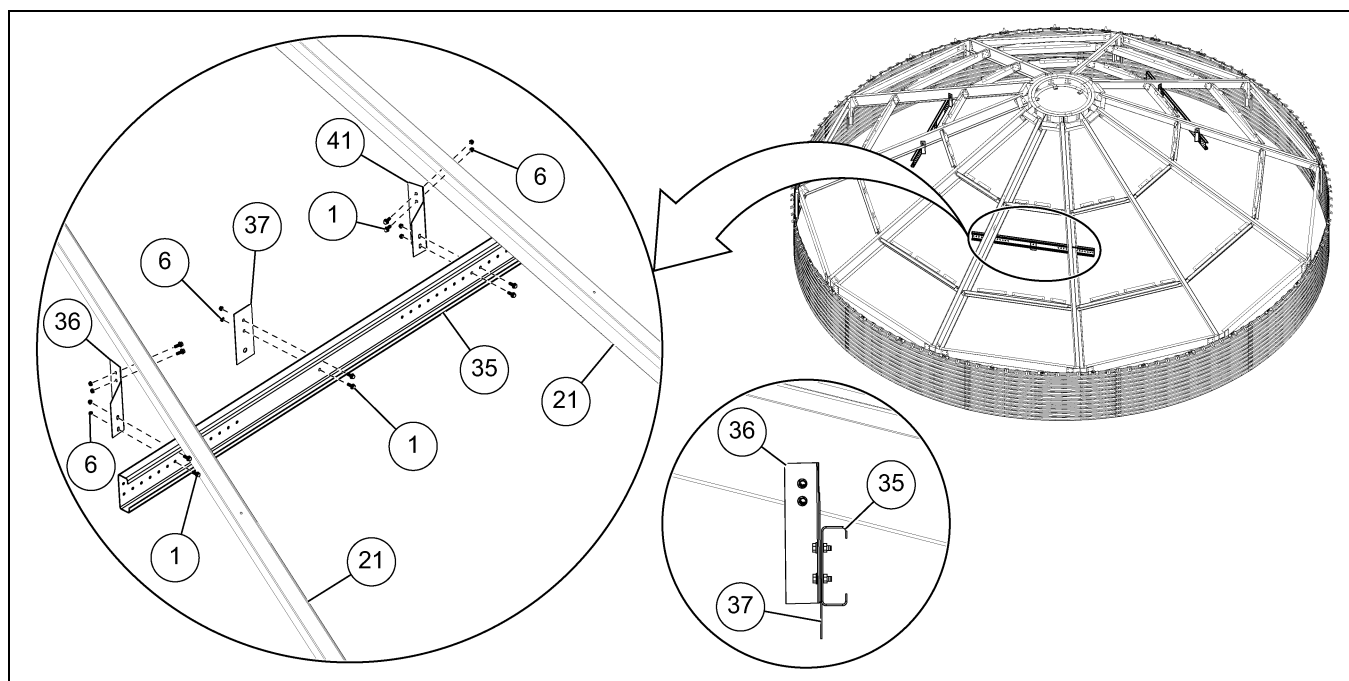

Figure 4Q Installing the Temperature Cable Support Channel
1. Attach a left temperature cable support angle (36) to the left side rafter (21) and a right temperature cable support angle (41) to the right side rafter (21) as shown using 3/8" x 1-1/2" flange bolts (1) and 3/8" flange nuts (6).
2. Attach the temperature cable support channel (35) to the temperature cable support angles (36 and 41) using 3/8" x 1-1/2" flange bolts (1) and 3/8" flange nuts (6).
3. Install the temperature cable hanging bracket (37) to the center of the temperature cable support channel (35) using 3/8" x 1-1/2" flange bolts (1) and 3/8" flange nuts (6) as shown in Figure 4Q.